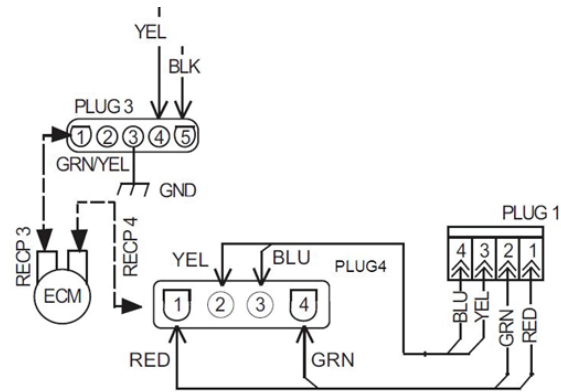

Fig. 13 - FE4A ECM/Plug Wiring Diagram
3. Disconnect Plug 1 from the board (HK38AE011). (See Fig. 13.)
12. If Fault Code 44 and the Motor LED are both flashing, place a DC voltmeter across terminals PL1-1 Red (+) to PL1-2 Green (-). (See Fig. 13.)